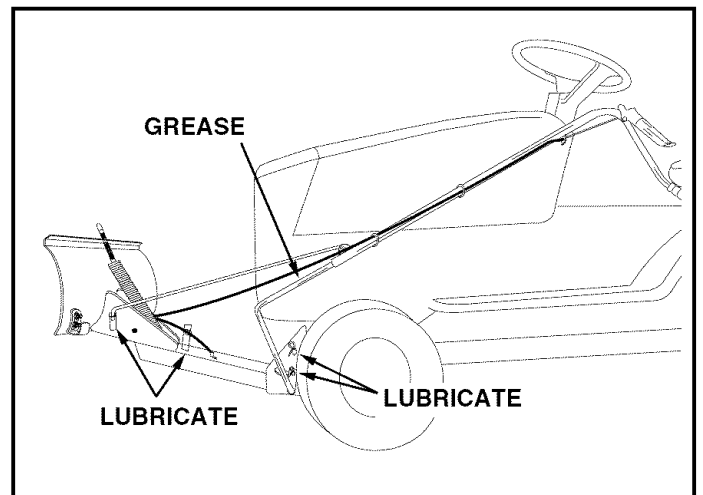

FIGURE 21
- Lubricate all pivot points to help maintain proper operation of blade. Use grease packet furnished with the snow blade for lubrication of the upper portion of the lift handle rod. See figure 21.
- Lubricate all pivot points and all points shown in figure 21, page 11 in the maintenance section.